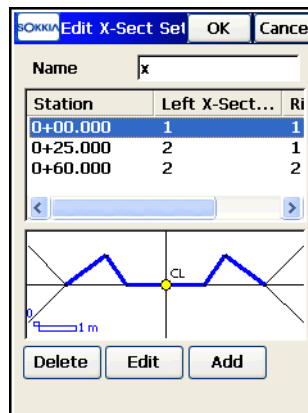

Figure 7-27. Cross Section
4. To add a station, tap the **Add** button in the *Add X-Sect Set* screen (Figure 7-27). Add as many templates as necessary to